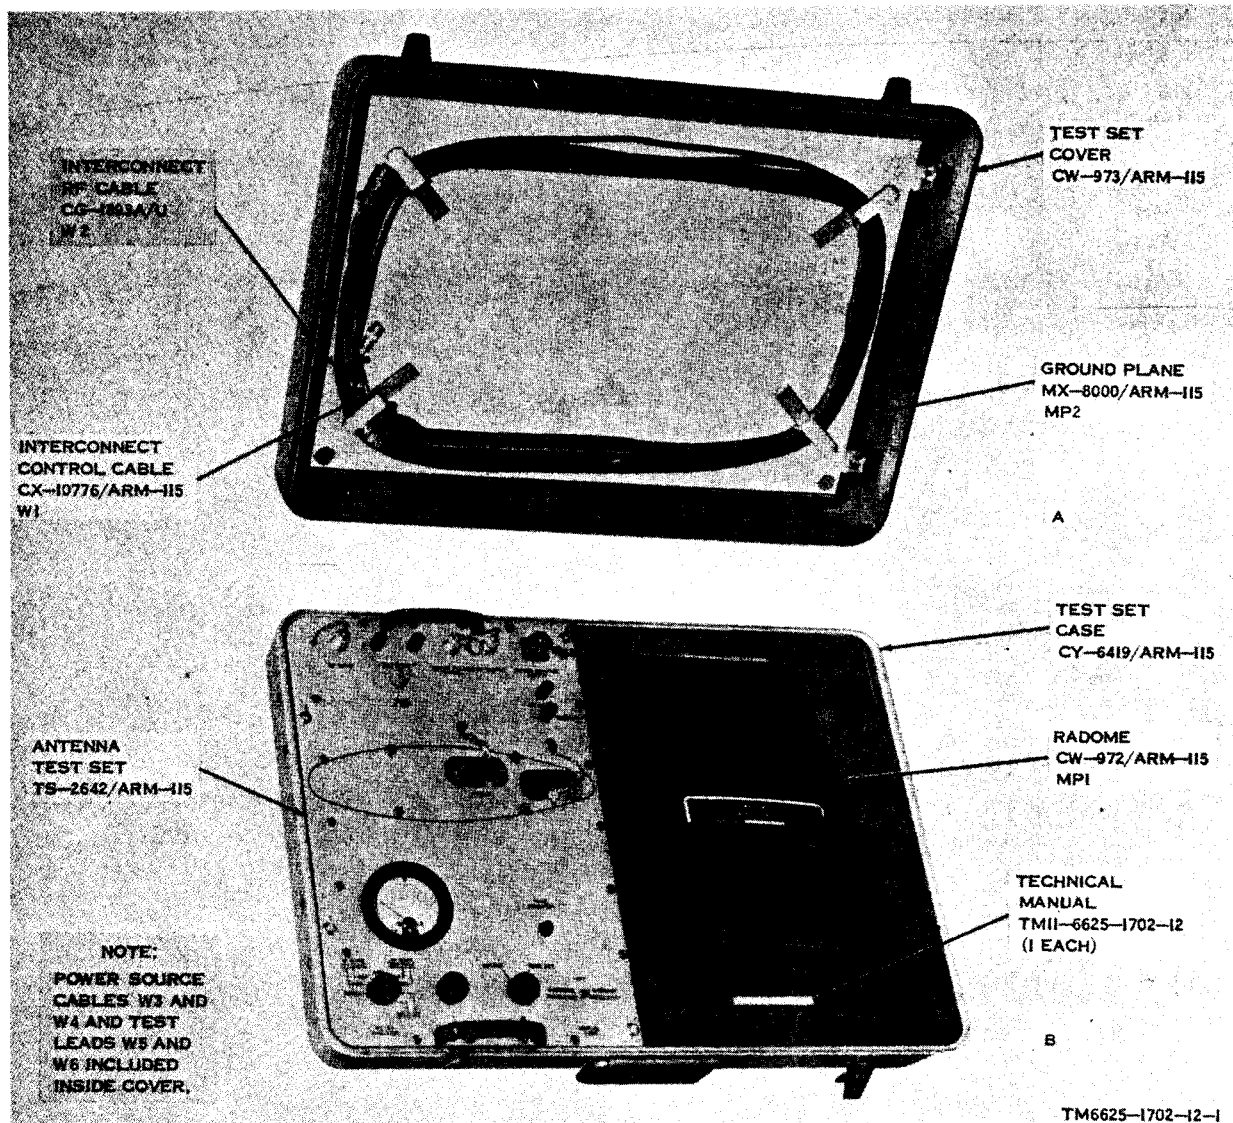

Figure 1-1. Test Set, Antenna AN/ARM-115.
This manual describes Test Set, Antenna AN/ARM-115 (fig. 1-1) and provides instructions for installation, operation, and operator and organizational maintenance. It includes instructions for operation, cleaning and inspection of the equipment, and replacement of parts available to the operator and organizational technician.
a. *Purpose.* Test Set, Antenna AN/ARM-115 (fig. 1-1) is a portable test set used in conjunction with the equipment listed in paragraph 1-9 to test, troubleshoot, and align the 437S-1/1A very - high - frequency - modulated (VHF/FM) Blade Antenna (437S-1/1A antenna) (fig. 1-2). The AN/ARM-115 contains circuits and controls necessary to operate the unit under test and also provides a ground plane and a test radome (part of the AN/ARM-115 for operational tests.)
Test Set, Antenna AN/ARM-115 (fig. 1-1) is portable and can be used wherever 27.5 volts direct-current (dc) is available. It is designed for use on a workbench and can be easily transported in its carrying case for use in the field.
Test Set, Antenna TS-2642/ARM-115 (fig. 1-1) contains controls, indicators, and connectors that are used in performing operational checks of the 437S-1/1A antenna. All these items are on the test set front panel. The test set is usually removed from the test set case for normal operation.
The minor assemblies of Test Set, Antenna AN/ARM-115 are included in figure 1-1. Special
g. Radome CS-972/ARM-115 is a combination antenna/radome assembly which consists of a folded monopole antenna (fig. 1-2) and a fiberglass blade-type radome (fig. 1-1). The test radome is filled with foam rubber to add to its strength, and its leading edge is protected from abrasion and wear by an erosion boot which is a silicone-rubber cover (fig. 1-2). This radome is